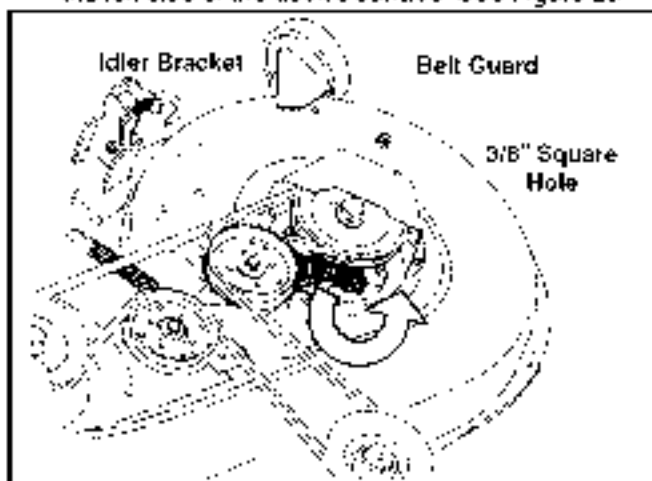

Figure 25
- Insert a 3/8" drive ratchet wrench (set to *loosen*) into the square hole found in the idler bracket on the left side of the deck's surface. See Figure 25.